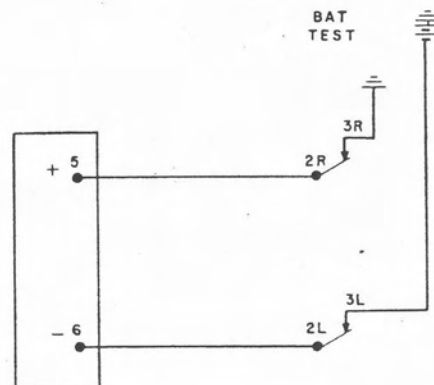

Figure 6. Exchange battery test.
3.4.1 Checking polarity on line or trunk. Refer to figure 6. Measure the battery voltage by operating the BAT TEST key and reading the meter. Note the voltage and restore the BAT TEST key.
4.7.2 Battery voltage test. Referring to figure 6, the BAT TEST key will be operated and at make contacts 2R & 3R will place positive battery at the + terminal of the voltmeter and at make contacts 2L & 3L will place negative battery to the - terminal of the voltmeter. The voltage will be noted upon the voltmeter.